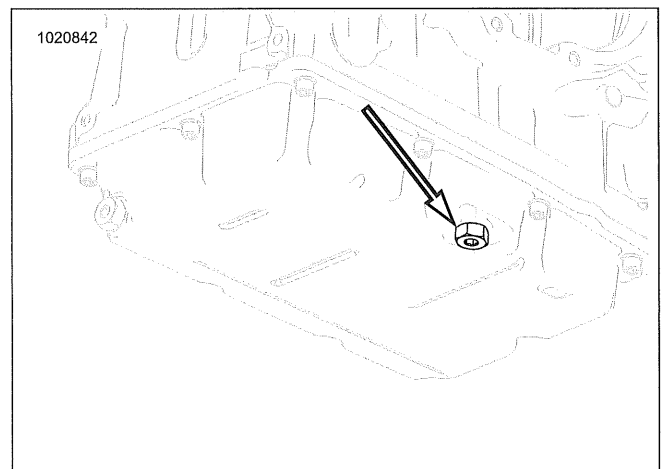

Figure 2-11. Transmission Drain Plug
2. See Figure 2-11. Remove transmission drain plug. Drain transmission.